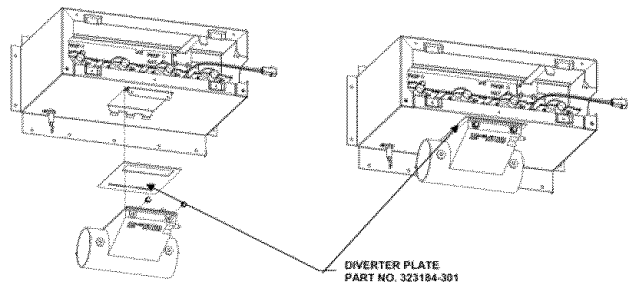

Fig. 6 - Installing Diverter Plate
- c. Install diverter plate Part Number 323184-301 provided in kit. (See Fig. 6.)